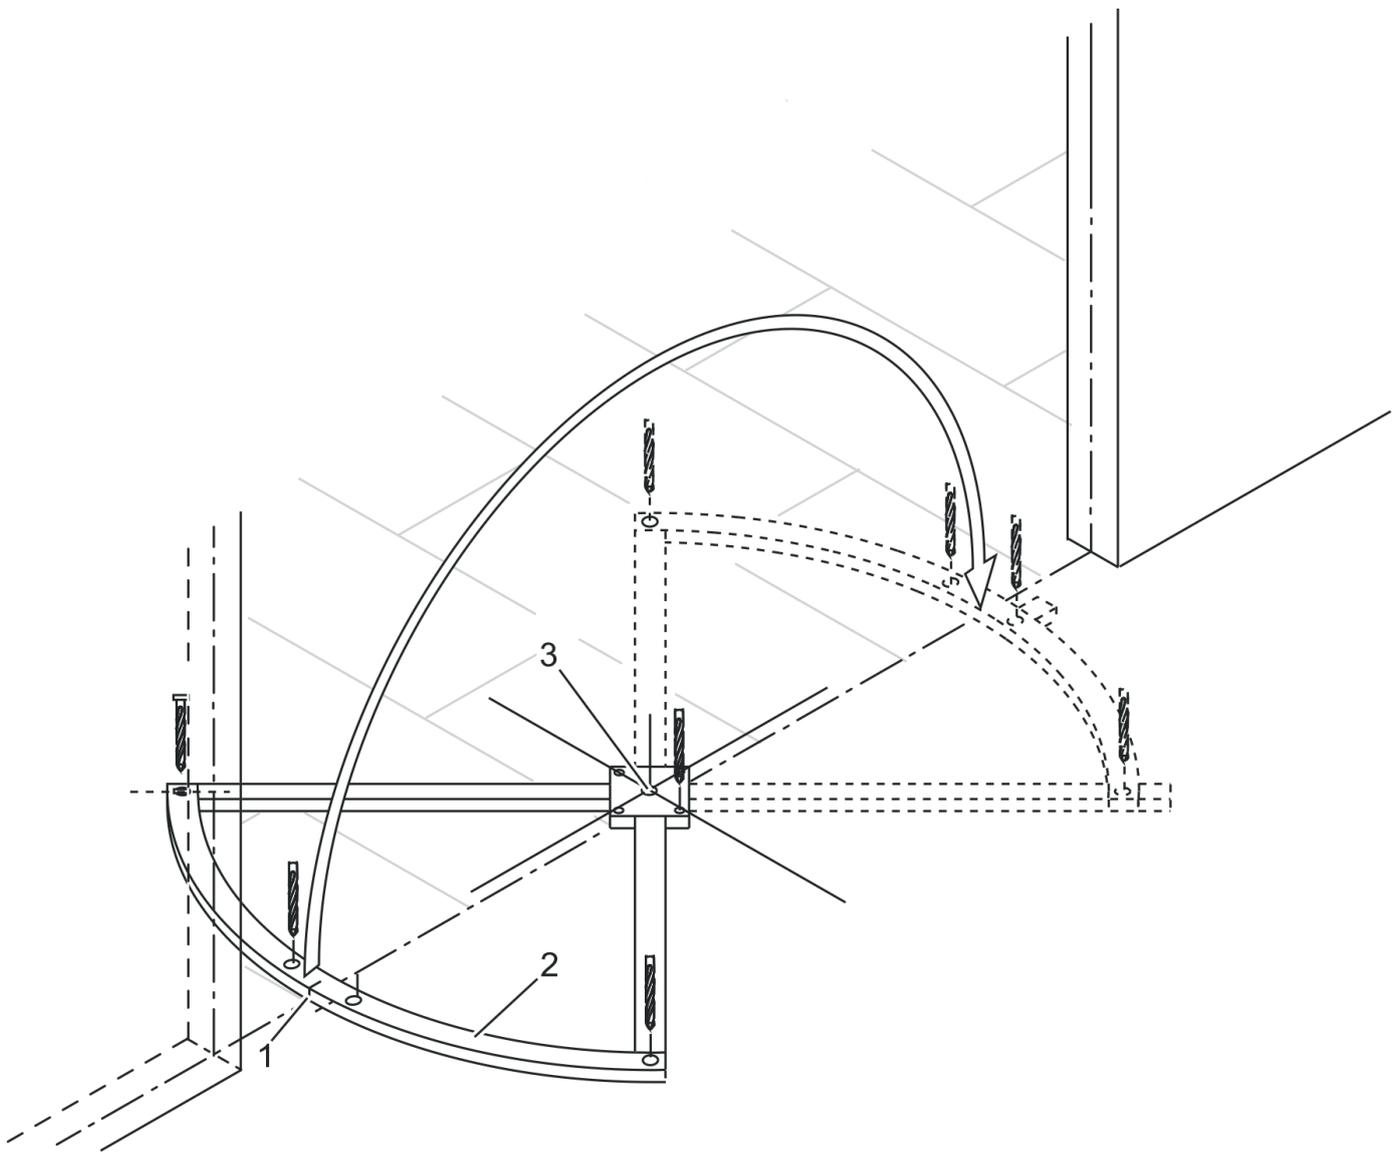

Fig. 36 Use drilling template
10. Align drilling template (Fig. 36/2):
- with center point (Fig. 36/3)
- Notch (Fig. 36/1) at center of axis
11. Fix drilling template (Fig. 36/2) in center (Fig. 36/3) with screw.
14. Turn drilling template (Fig. 36/2) over onto the opposite side.
15. Align drilling template (Fig. 36/2):
16. Fix drilling template (Fig. 36/2) with screw.
18. Loosen screws and move drilling template (Fig. 36/2) away from the working area.